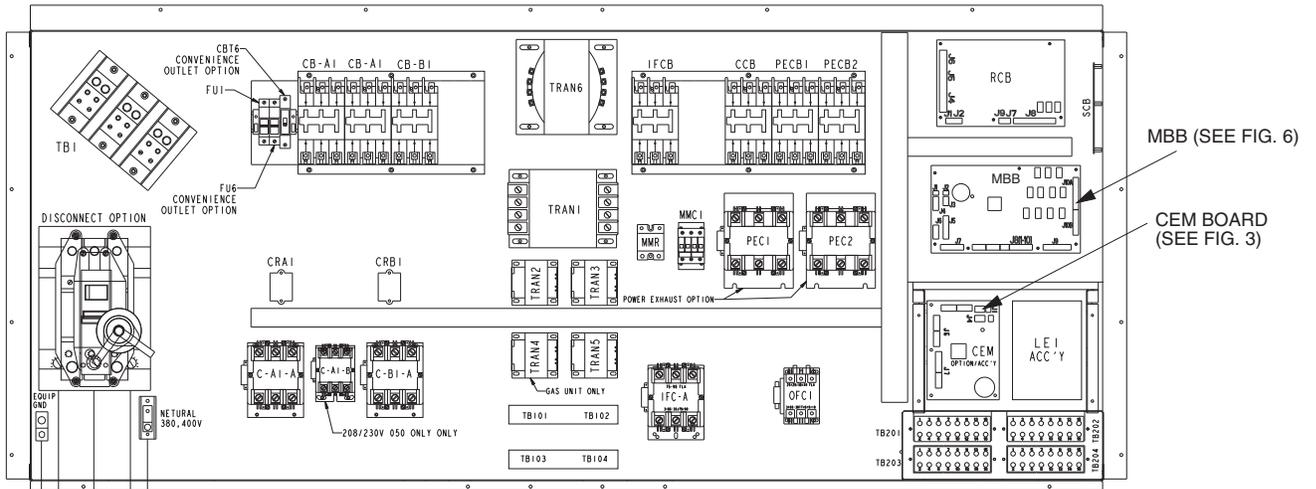
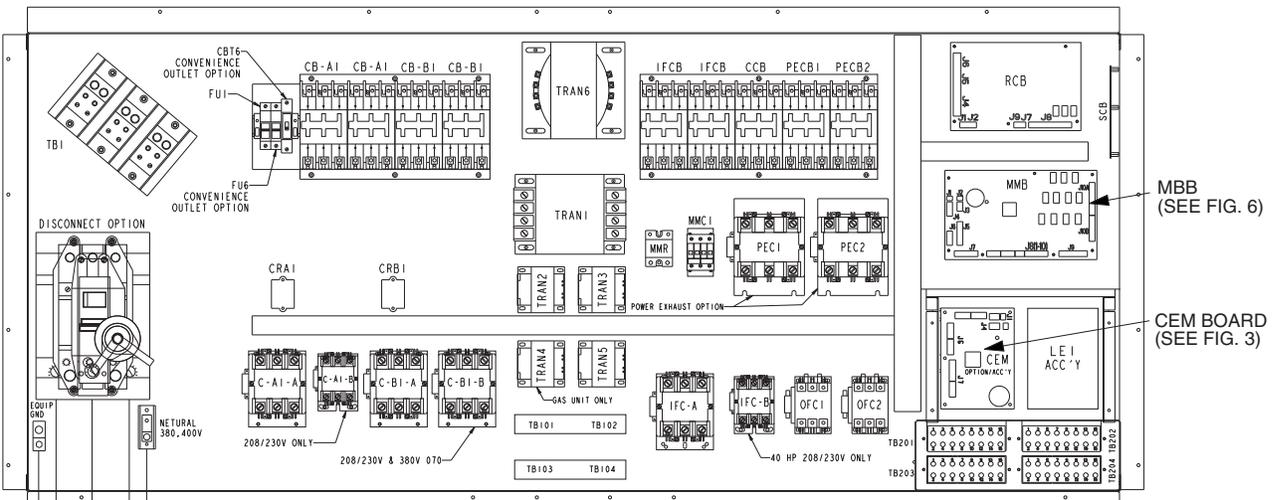
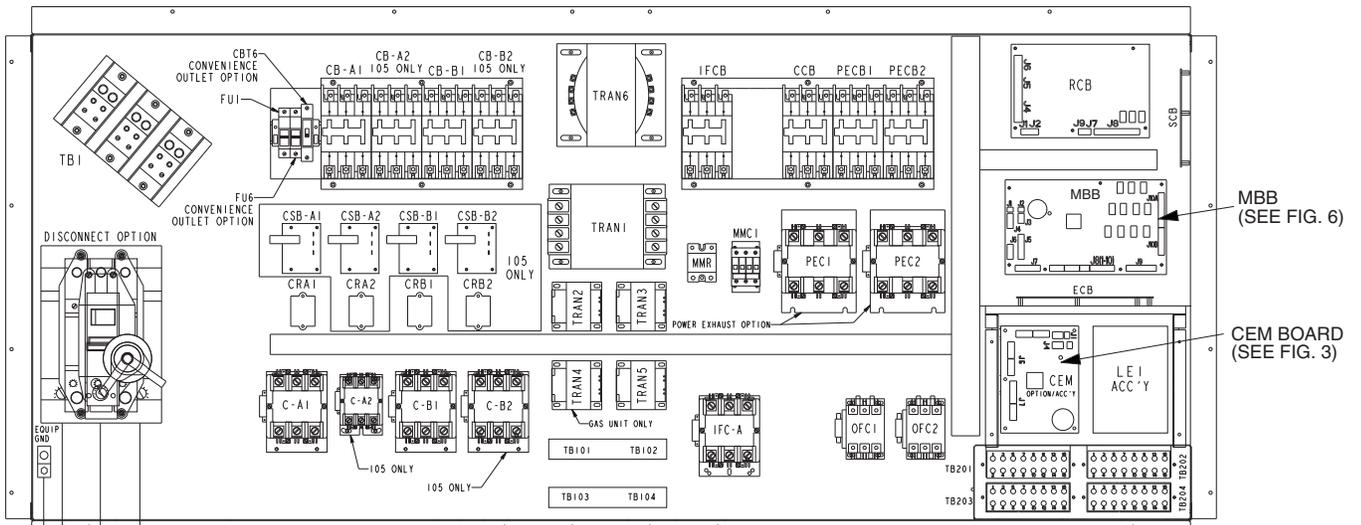

Fig. 8 — Main Control Box, 48/50Z030-050
Fig. 9 — Main Control Box, 48/50Z055-070
Fig. 10 — Main Control Box, 48/50Z075-105
6. Mount CEM board using 5 no. 6B-20 x 3/4-in. screws, as shown in Fig. 8 (sizes 030-050), Fig. 9 (sizes 055-070) or Fig. 10 (sizes 075-105).